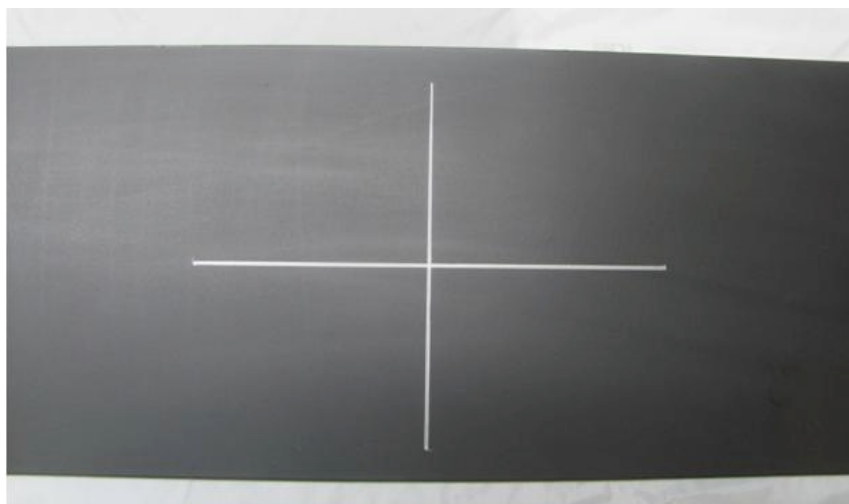

Figure 10: Marking Structural Member for Tiltmeter Installation
2. Locate the centerline of the gaging area in both the longitudinal and transverse directions. First, locate the midpoint and draw two centerlines as shown in Figure 10. The longitudinal centerline should be approximately 8 in (203 mm) long and the transverse centerline should be approximately 6 in (152 mm) long. This will allow the marks to be seen while the tiltmeter is being installed.